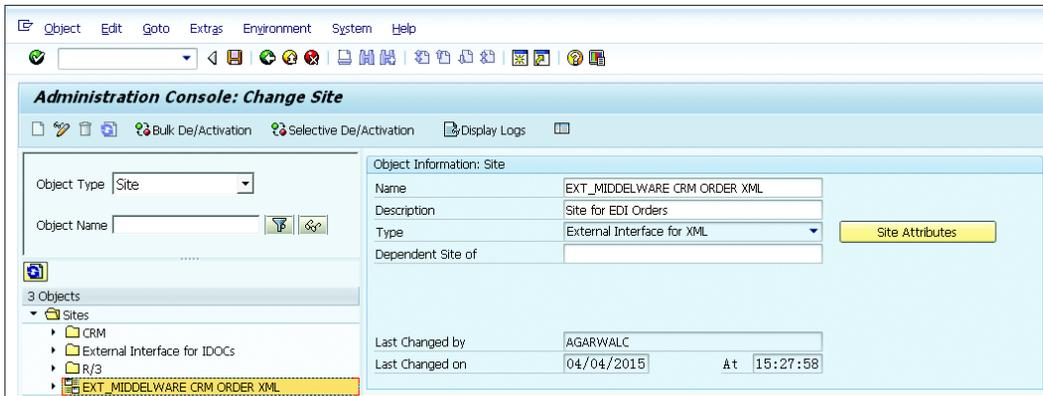

Figure 3.44 Create Site – External Interface for XML
2. Create the SITE for the XIF for the IDocs, and assign the site attributes with the receiving partner as shown in Figure 3.44.